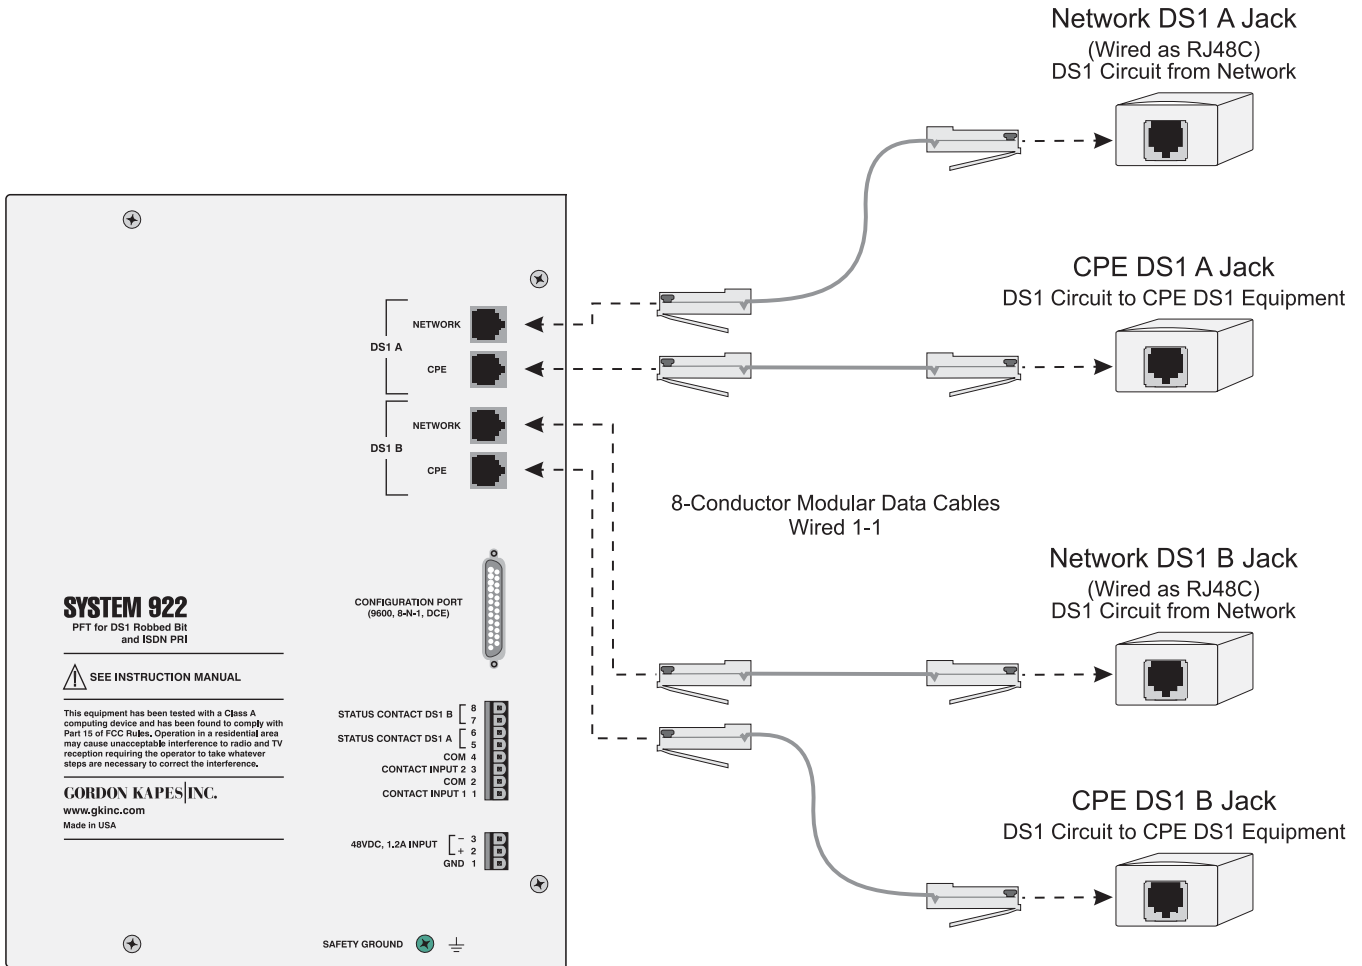

Figure 2-13. Connecting the System 922 to the Network DS1 and CPE DS1 Jacks
- ❑ Using one of the modular data cables from the installation kit, connect the specified network DS1 circuit to the Network DS1 A Jack located on the right side panel of the System 922 enclosure. Refer to Figure 2-13.
- ❑ Using a second modular data cable, connect the specified CPE DS1 circuit to the CPE DS1 A Jack located on the right side panel of the System 922 enclosure. Refer to Figure 2-13.